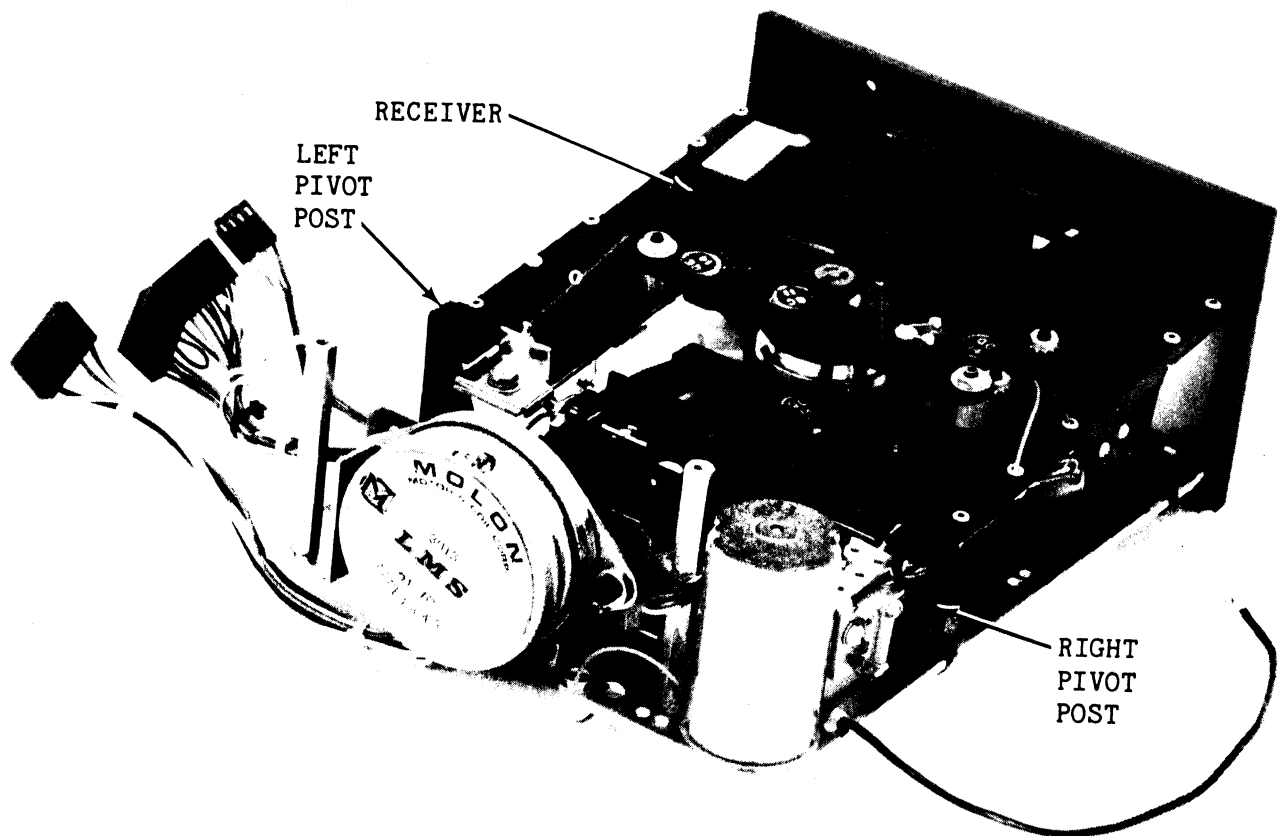

Figure 6-14. Receiver Details
- d. Loosen the left hand pivot post mounting screw, then separate the receiver from the left hand pivot (see Figure 6-14).